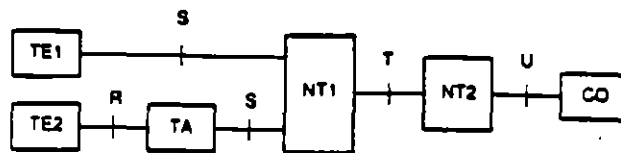

Figure 1
Customer premises equipment in an ISDN falls into two categories: terminal equipment (TE) and network termination (NT) as shown in Figure 1. Two basic types of terminal equipment are defined: terminal equipment type 1 (TE1) complies with ISDN recommendations and is equipped with a standard ISDN physical interface; terminal equipment type 2 (TE2) requires an external adapter (TA) for compliance with ISDN recommendations and physical interface. Network terminations (NT) can take different forms depending on the network in place and are also split into two categories. Network termination 1 (NT1) performs the physical connection between the premises network and the off-premises equipment (such as a central office). It performs such functions as signal conversion (4-wire to 2-wire) and maintenance of the loop's electrical characteristics. Network termination 2 (NT2) is responsible for the user's side of the connection to the network and performs higher level functions such as concentration and switching (for example, a PBX or LAN).